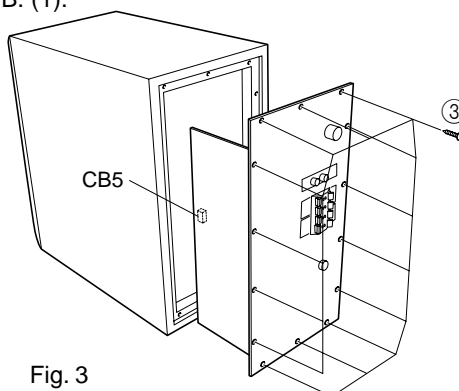

Fig. 3
Remove 14 screws (②) in Fig. 3, and remove the rear panel. At this time, disconnect the connector CB5 of MAIN P.C.B. (1).
②のネジ14本を外し、リアパネルを外します。(Fig. 3)